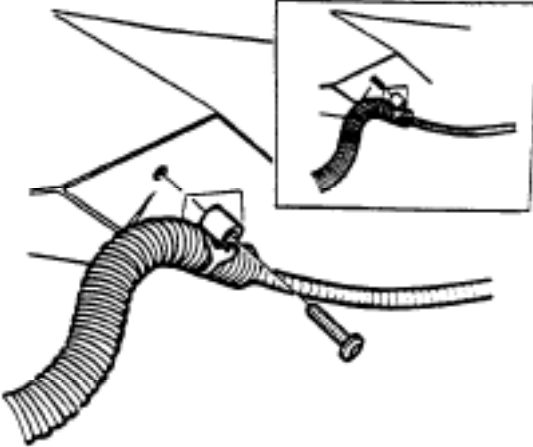

Figure 12. Securing Cable Tie
12. The cable tie should be secured using screw 84 10 961 in the hole previously drilled, or, press the cable tie onto the stud already fitted (see Figure 12).